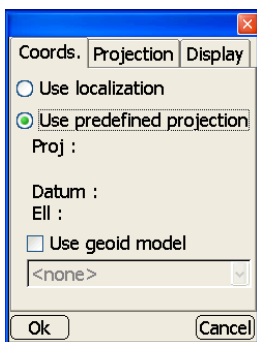

Figure 1-31. Control Options – Coordinate
2. On the **control options** dialog box (Figure 1-31) press the *Coords.* tab and do the following.